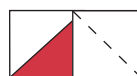
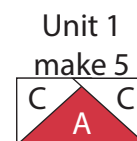

Fig. 3
Fig. 4
2. Place another 2 1/2" Fabric C square on the right side of the 2 1/2" x 4 1/2" Fabric A strip, right sides together (Fig. 3). Sew across the diagonal of the square from the upper left corner to the lower right corner (Fig. 3). Flip open the triangle formed and press. Trim away the excess fabric from behind the triangle, leaving a 1/4" seam allowance to make (1) Unit 1 strip (Fig. 4).